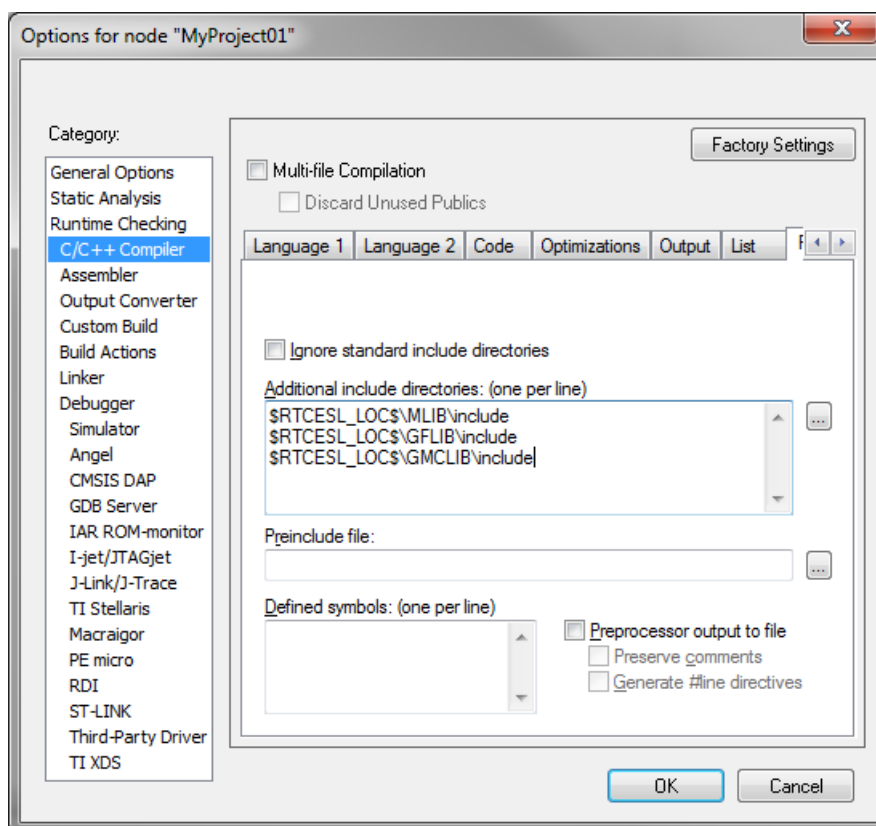

Figure 1-41. Library path addition
5. Click OK in the main dialog. See Figure 1-41.